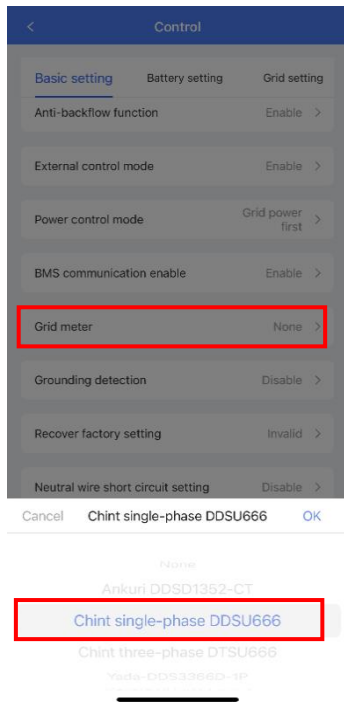

Figure4-37 Set the meter type
Step 1 Set the meter type in "**Basic setting - grid meter**", as shown in Figure4-37.